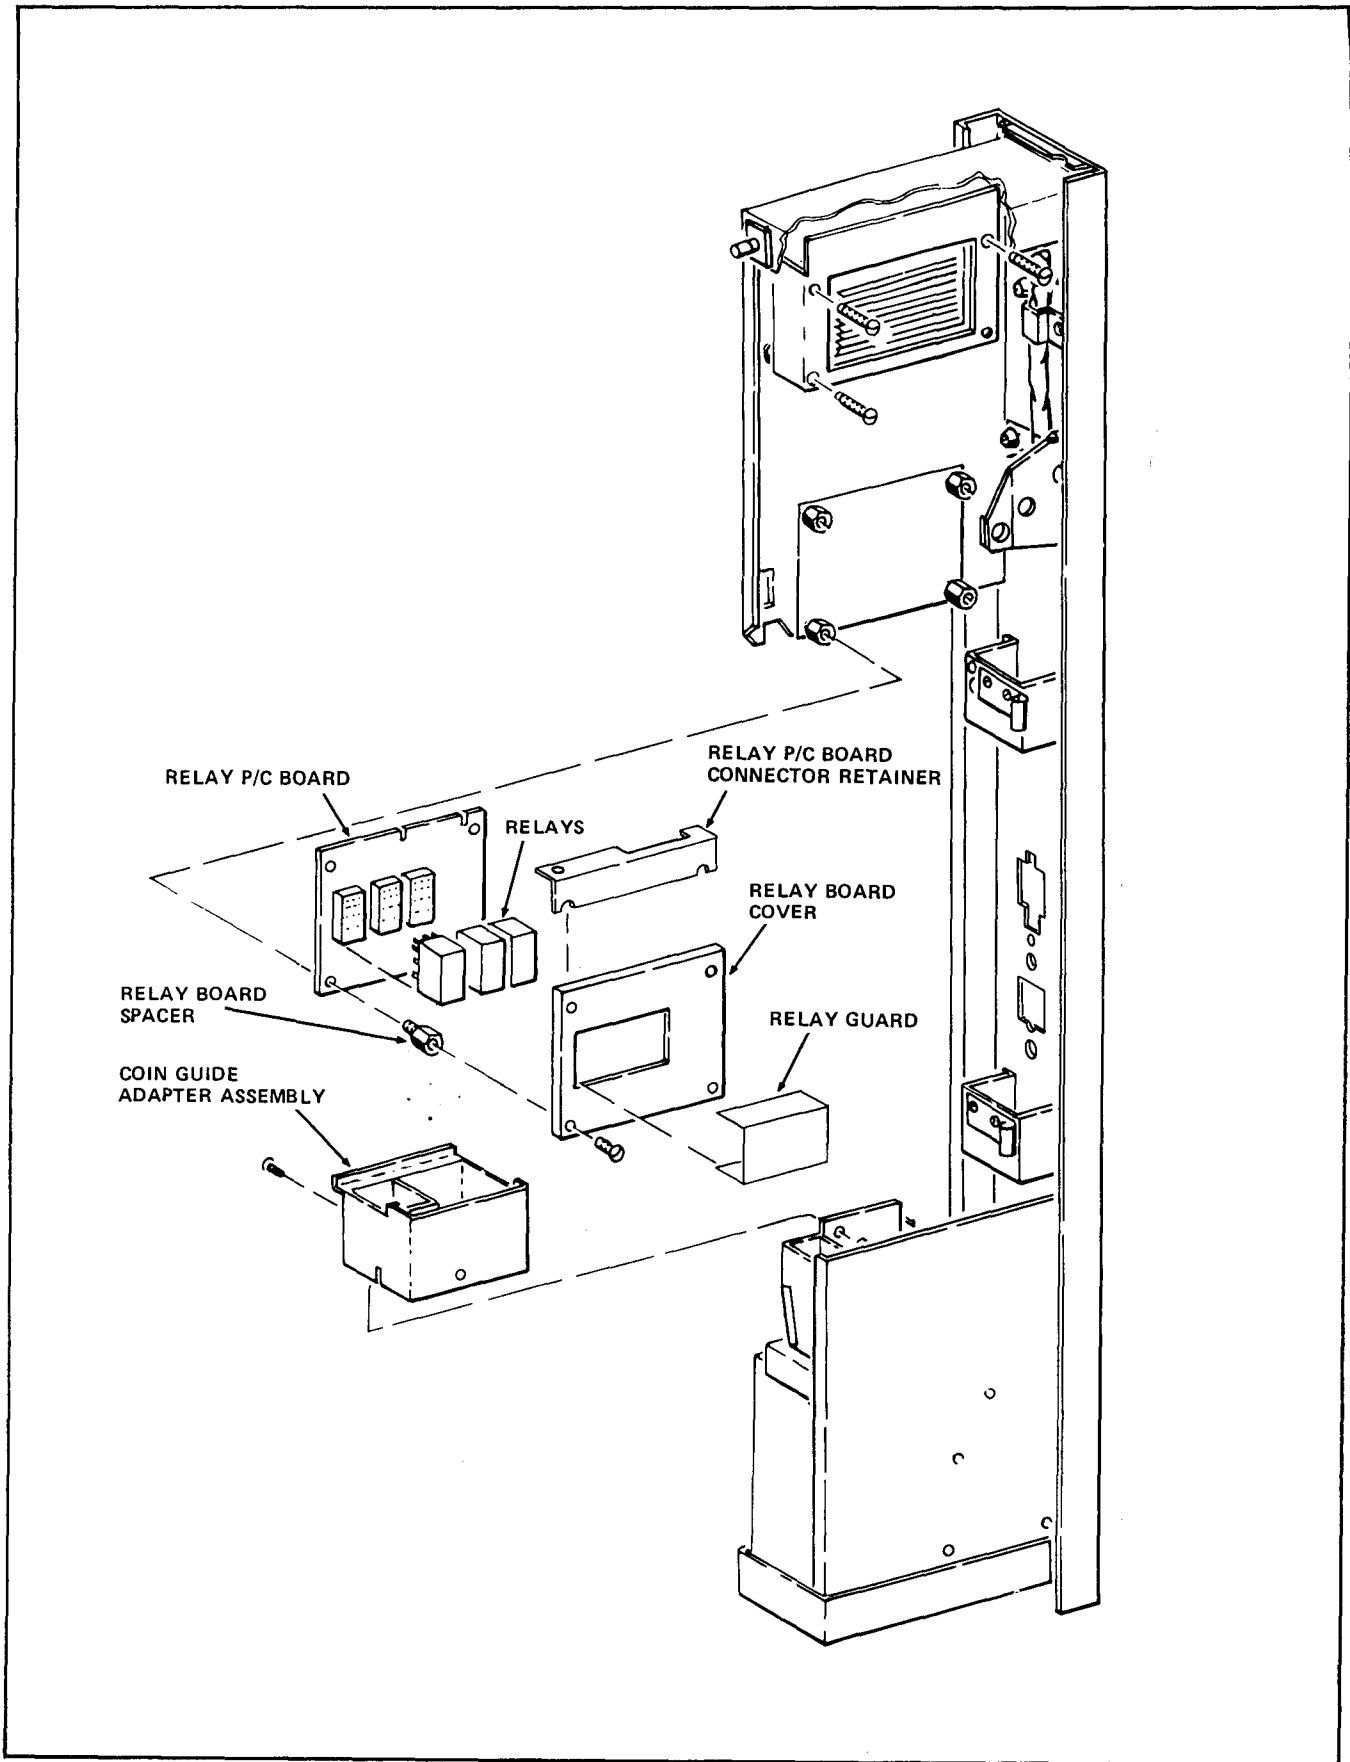

FIGURE 2
4. Remove two attaching Screws and the Coin Guide Adaptor Assembly from the Merchandiser. See Figure 2.
5. Remove the Relay Guard from the Relay Board Cover. See Figure 2.
6. Remove the three Relays from the Relay Board. See Figure 2.
7. Remove the Relay P/C Board Connector Retainer from the Relay Board Cover, if the Merchandiser is so equipped. See Figure 2.
8. Remove four attaching Screws and the Relay Board Cover from the Merchandiser. See Figure 2.
10. Remove four Relay Board Spacers and the Relay P/C Board from the Merchandiser. See Figure 2.
11. Remove three of the four Screws attaching the Price Board Cover and the Price Board to the Monetary Compartment, leaving the Screw in the lower right corner of the Price Board Cover in place. See Figure 2.